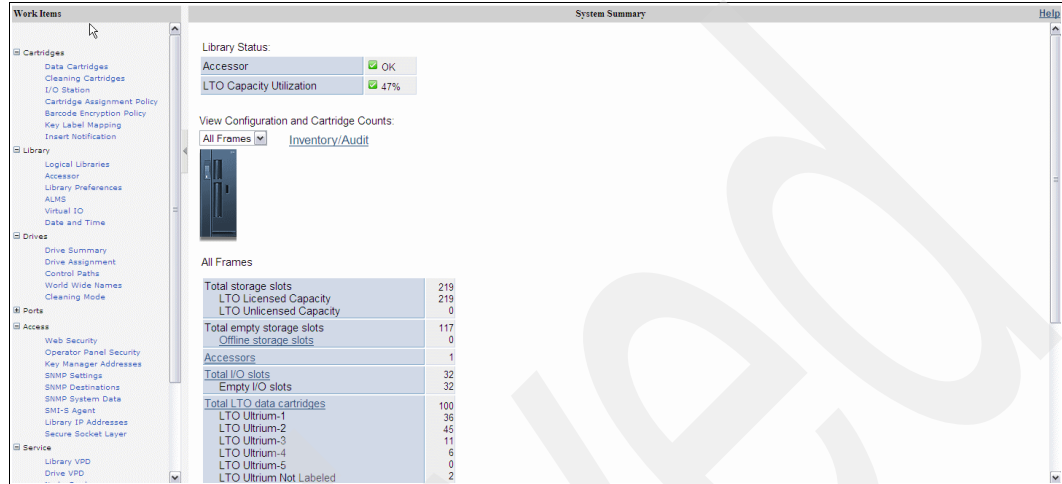

Figure 3-16 TS3500 Web Specialist Welcome page
1. Type the Ethernet IP address on the URL line of the browser and press **Enter**. The Welcome page displays (Figure 3-16).
1. Type the Ethernet IP address on the URL line of the browser and press **Enter**. The Welcome page displays (Figure 3-16 on page 59).